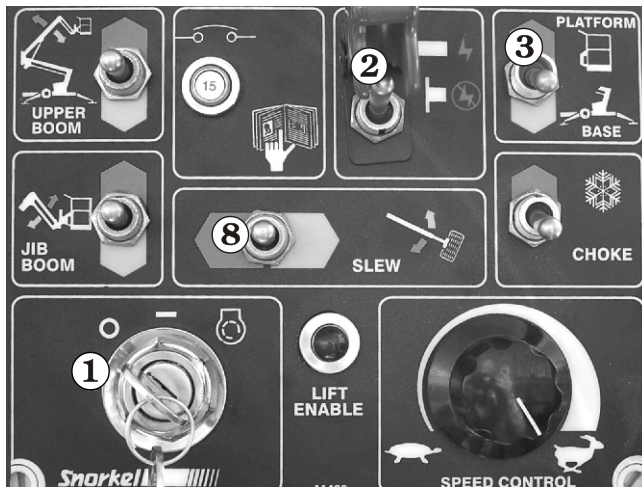

Figure 9.1
1. The **Master Key Switch** ① must be ON (see Figure 9.1).
2. The **Emergency Stop** switch ② must be (ON) (see Figure 9.1).
3. The **Platform/Ground Selector** switch ③ (see Figure 9.1) must be set to PLATFORM.
*To operate the slew function from the ground control box when using the emergency lowering valve the **Master Key Switch**, and **Emergency Stop** switch must be on and the **Platform/Ground Selector** must be set to ground. The slew direction can then be selected using the slew switch ❸ (see Figure 9.1). The slew function will only operate while the booms are lowering.*